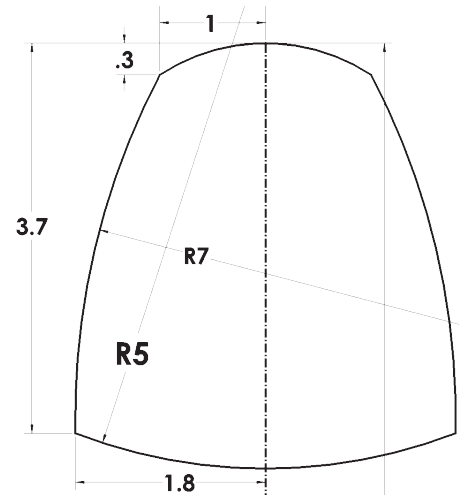

Fig. 10
Step 5. Click **Smart Dimension**  (S) on the Sketch toolbar.
Step 6. Dimension bottom arc radius 5, Fig. 10.